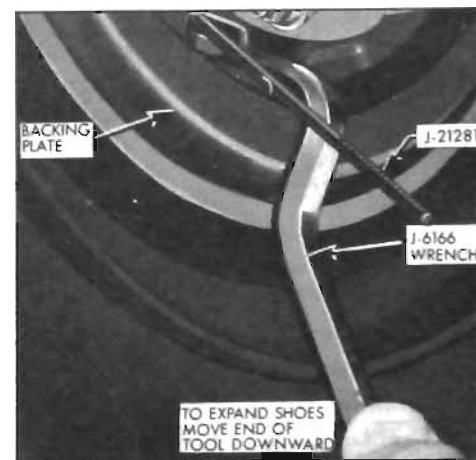

Figure 9-11—Adjusting Right Front Brake Shoes
1. Remove adjusting hole cover from brake backing plate. Install J-21231 through adjusting hole to move actuator off adjusting screw. Use J-6166 to turn brake adjusting screw; expand brake shoes at each wheel until the wheel can just be turned by hand. See Figure 9-11. The drag should be equal at all wheels.